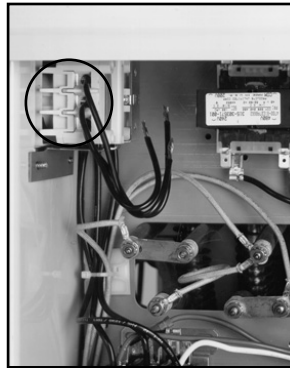

Figure 5
4. The Disconnect switch, with its mounting bracket should be inserted into the heater cabinet by opening the bottom service door and positioned behind the opening created in Step 2 (see Figure 5).
5. The disconnect switch, with its mounting plate should be inserted into the heater cabinet by opening the bottom service door and positioned behind the opening created in step 2 (see Figure 5).